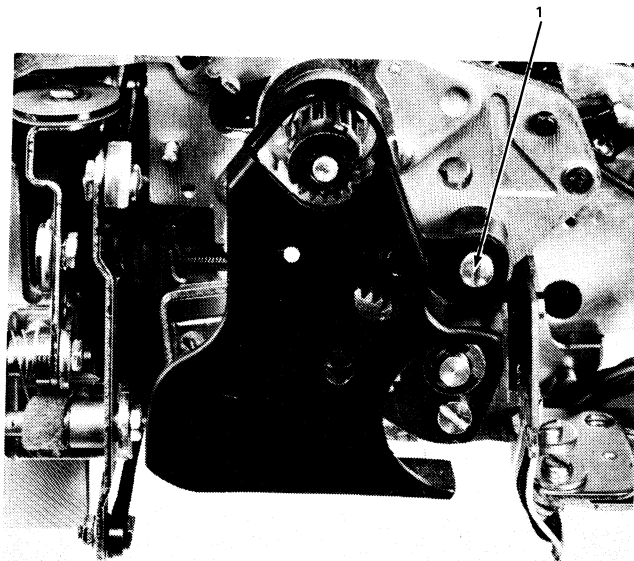

Figure 4-7. Belt Replacement (Left Side of Printer)
4. Remove the gear guard (No. 1, Figure 4-7).